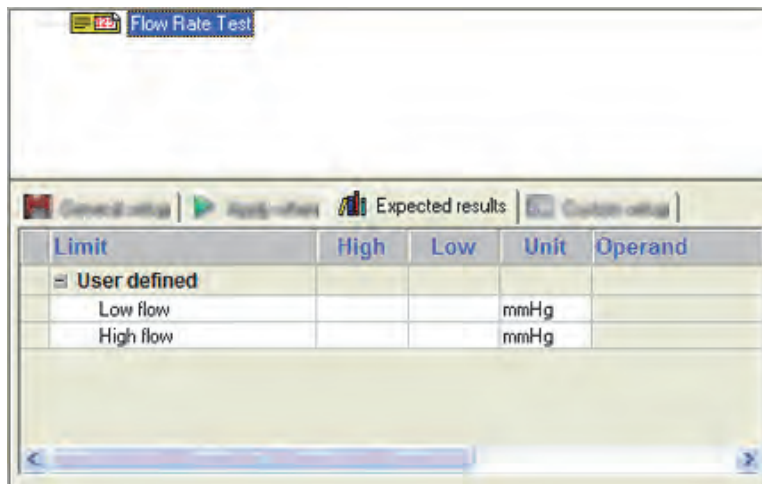

Figure 3-41. Numerical List Expected Results
2. Click the **Expected Results** tab to display the limits table shown in Figure 3-41.